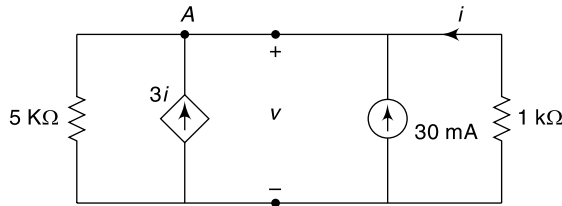

Fig. 14.29(b)
14.57 Calculate the value of v and the power supplied by the independent source of Fig. 14.29(b).